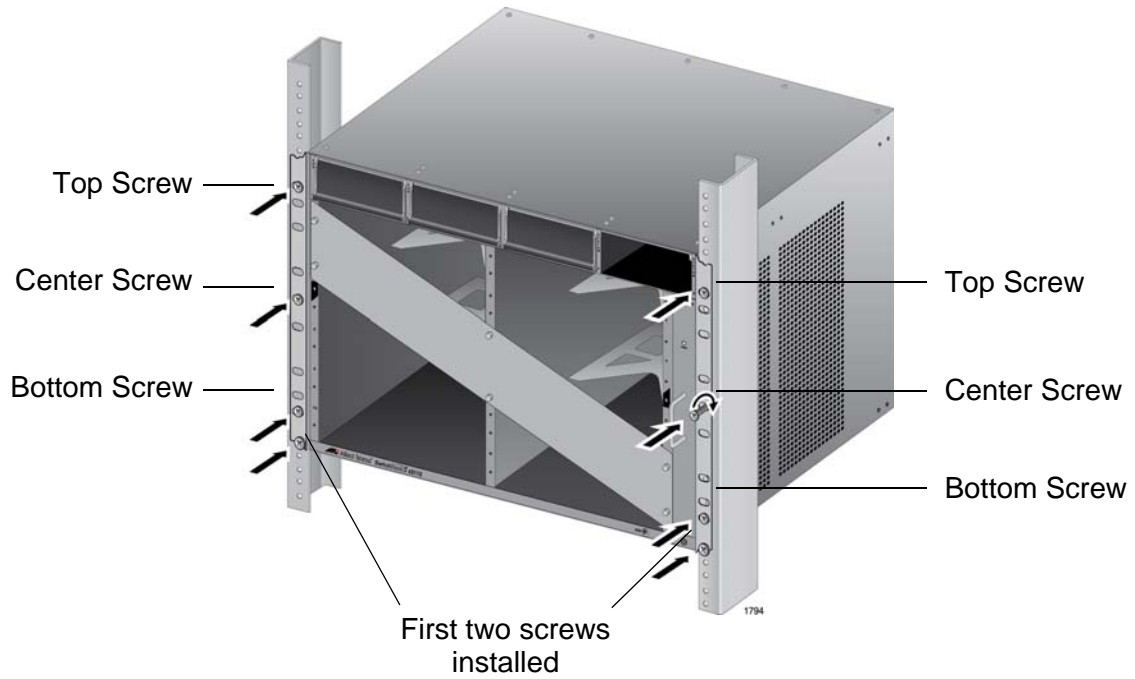

Figure 45. Installing the Rack Mount Screws
4. Install six rack mount screws (not provided) to secure the chassis to the equipment rack, as shown in Figure 45 on page 110.